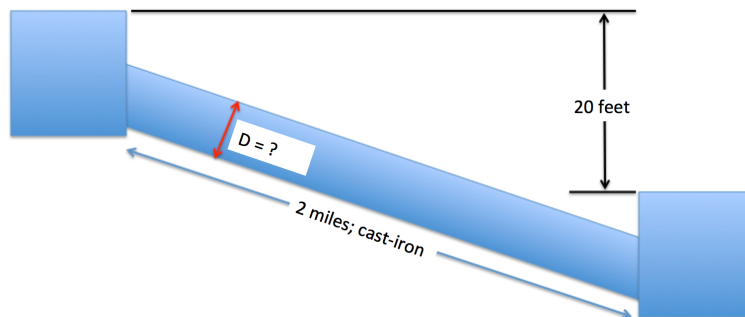

Figure 2: Pipeline connecting two reservoirs
- Estimate the diameter of a cast-iron pipe needed to carry 60°F water at a discharge of 10 cubic-feet per second (CFS) between two reservoirs 2 miles apart with an elevation difference between the water surfaces in the two reservoirs of 20 feet as depicted in Figure 2.